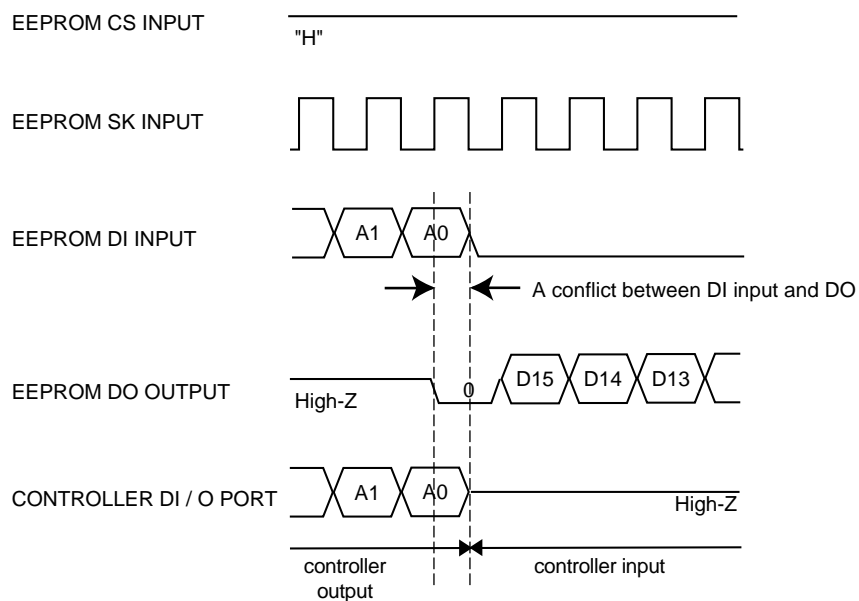

Fig.36 DI / O Port to connect DI and DO read operation
(1) Half clock cycle for A0 (last address bit) in read mode. (See Fig.36)